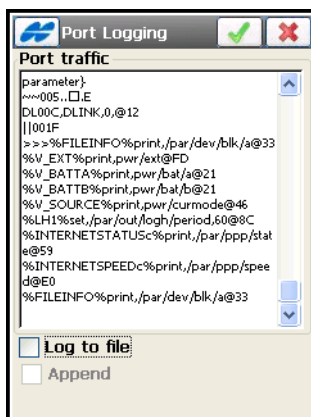

Figure 2-11. Port Logging
1. The **Port Logging** screen (Figure 2-11 on page 2-11) initially shows no data. Tap the *Help* Icon in the upper-left corner of the screen to open a pop-up menu and select one of the following options: